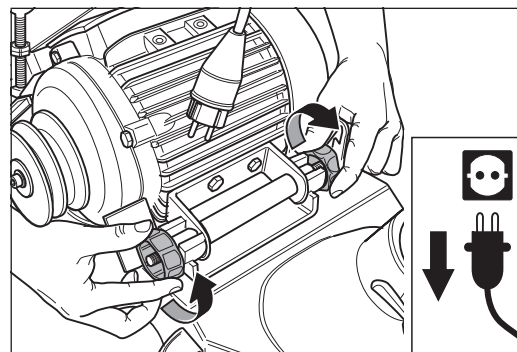

Fig. 93 Loosen the two motor nuts.
- 3 Loosen the two motor nuts at the motor bearing bracket (Fig. 93).